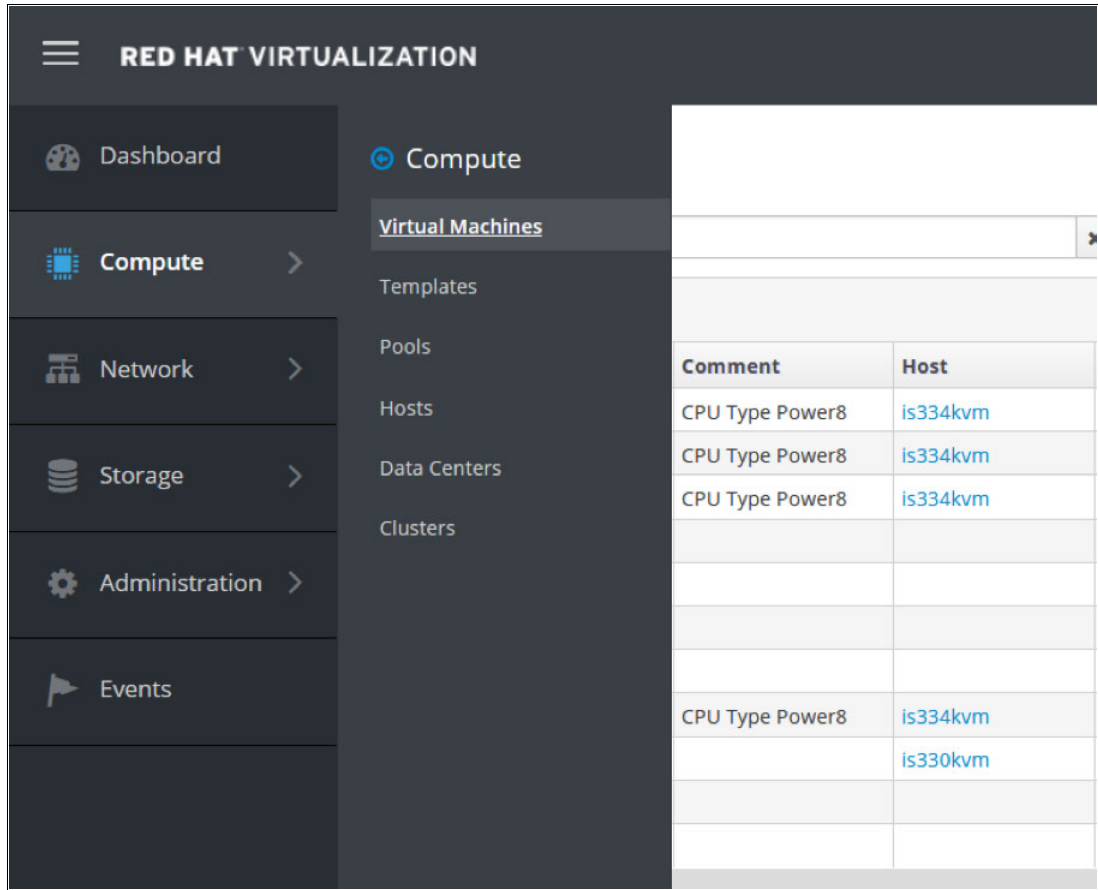

Figure 4-37 Red Hat Virtualization window
1. Select **Compute** → **Virtual Machines**, as shown in Figure 4-37.